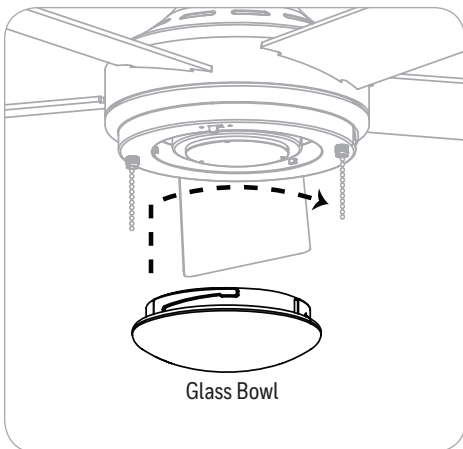

Figure 5.7
7. Lift the glass bowl into the light kit and turn in a clockwise direction until it is secure (Figure 5.7).